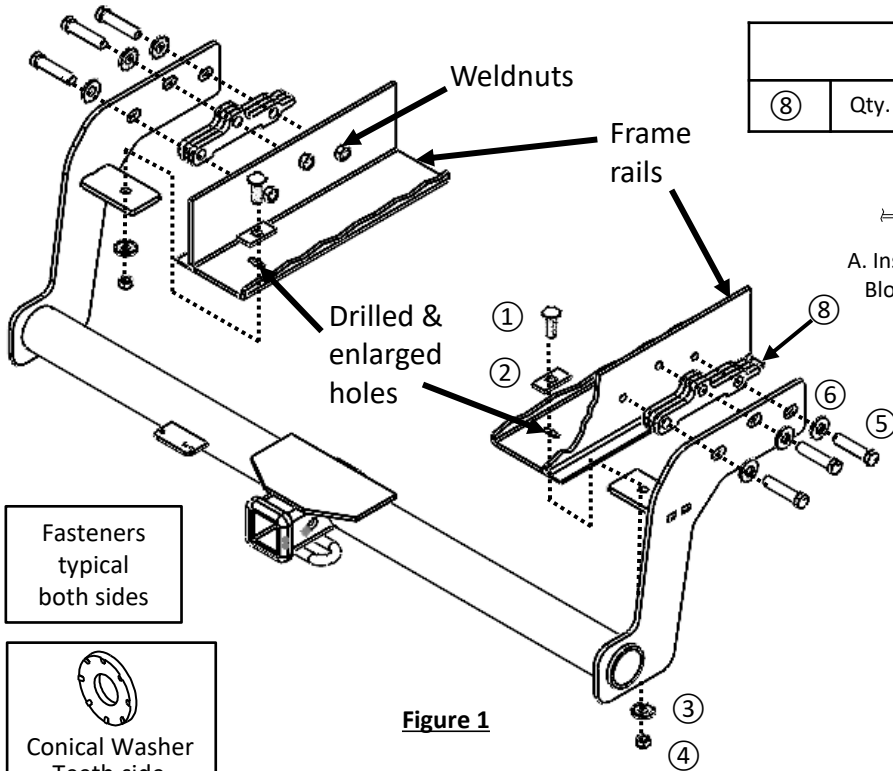
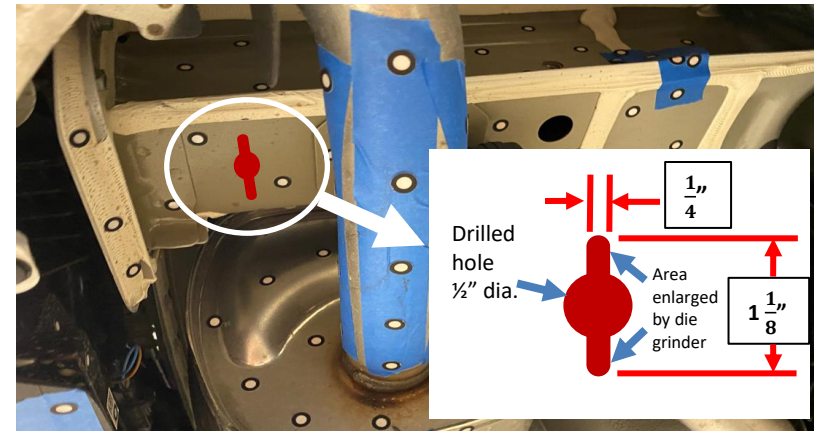

Figure 1
Figure 2
- Lower exhaust**– Using a flat head screwdriver remove (6) plastic rivets from the bottom of fascia on passenger side and repeat that for driver side. Using an exhaust hanger removal plier, remove (1) rearmost rubber hangers, per side. A spray of lubricant or soapy water on rubber hangers makes them slide off metal pins more easily. Lower the exhaust mufflers by gently pulling the lower fascia. **NOTE: Be sure that exhaust is properly supported before removing rubber hangers.**
- Drill & enlarge holes** – Remove the stickers from weldnut holes on the frame rail if present. Using wire brush to clean the weldnuts if needed. Raise the hitch into position with spacer plates and temporarily secure the hitch with all M12 bolts (⑤). Use marker to mark a drill point at bottom frame rails based on hitch bracket hole center, both sides, see **Figure 1**. Make sure the hitch sits straight with location when marked. Lower the hitch down and use drill to drill a 1/2" hole at marked location, per side. Use a die grinder to enlarge the holes to feed block (②) into vehicle frame rails, both side, as shown in **Figure 2**.
- Install hitch** – Feed the carriage bolts (①) and blocks (②) through drilled holes using the pull wires (⑦), pull the bolts through blocks, see **Figures 1 & 3**. Leave pull wires attached. Raise the hitch into position and feed the pull wires through bracket bottom holes. Loosely install spacer plate (⑧), conical washers (⑥) and bolts (⑤) to the hitch, then remove the pull wires and loosely install the conical washers (③) and nuts (④) to the carriage bolts (①).
2. Drill & enlarge holes – Remove the stickers from weldnut holes on the frame rail if present. Using wire brush to clean the weldnuts if needed. Raise the hitch into position with spacer plates and temporarily secure the hitch with all M12 bolts (5). Use marker to mark a drill point at bottom frame rails based on hitch bracket hole center, both sides, see **Figure 1**. Make sure the hitch sits straight with location when marked. Lower the hitch down and use drill to drill a 1/2" hole at marked location, per side. Use a die grinder to enlarge the holes to feed block (2) into vehicle frame rails, both side, as shown in **Figure 2**.